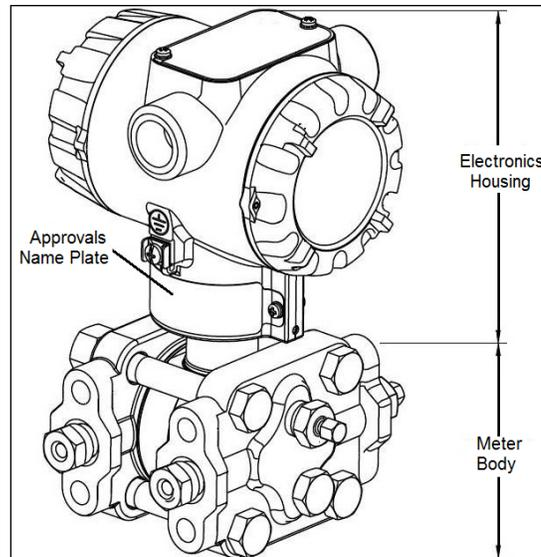
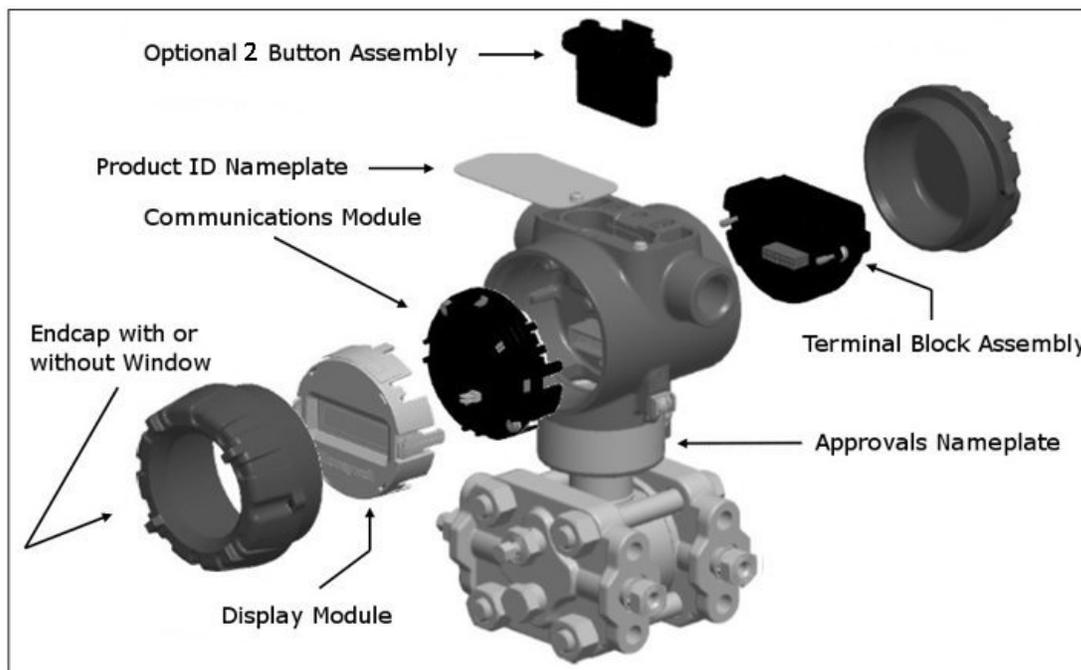
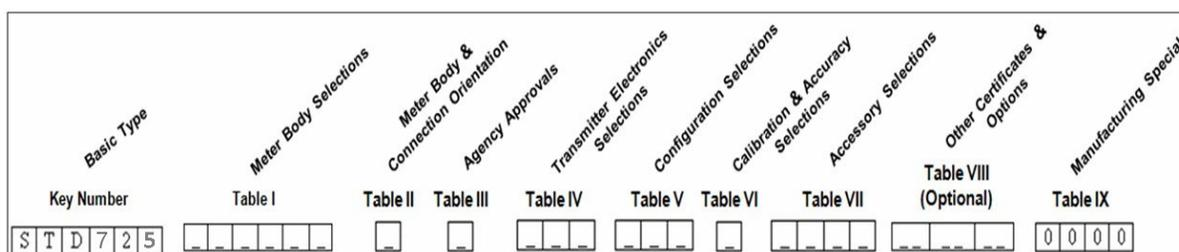

Figure 41 – ST 700 Basic Transmitter - Major Assemblies
Figure 42 – ST 700 Basic transmitter Electronics Housing Components
Figure 43 – ST 700 Basic Transmitter - Name Plate
As shown in Figure 41 the ST 700 basic transmitter is packaged in two major assemblies: the electronics housing and the meter body. The elements in the electronic housing respond to setup commands and execute the software and protocol for the different pressure measurement types. Figure 42 shows the assemblies in the electronics housing with available options.
The transmitter nameplate mounted on the bottom of the electronics housing (see Figure 42) lists its model number, physical configuration, electronics options, accessories, certifications, and manufacturing specialties. Figure 43 is an example of a typical Gauge Pressure (GP) or Atmospheric Pressure (AP) transmitter name plate. The model number format consists of a Key Number with several table selections. The Differential Pressure (DP), Absolute Pressure (AP), and Gauge Pressure (GP) name plates are essentially the same. The DP model provides one additional entry (7 vs. 6) in the meter body selections (Figure 43) to accommodate the static pressure rating.
An “Approvals” name plate is located on the bottom of the Electronics Assembly; see Figure 42 exact location. The approvals name plate contains information and service marks that disclose the transmitter compliance information.
Zero and Span adjustments are possible in ST 700 basic transmitter with the optional external 2-button and integrated two-button assemblies. See Figure 42 for the external 2-button assembly.